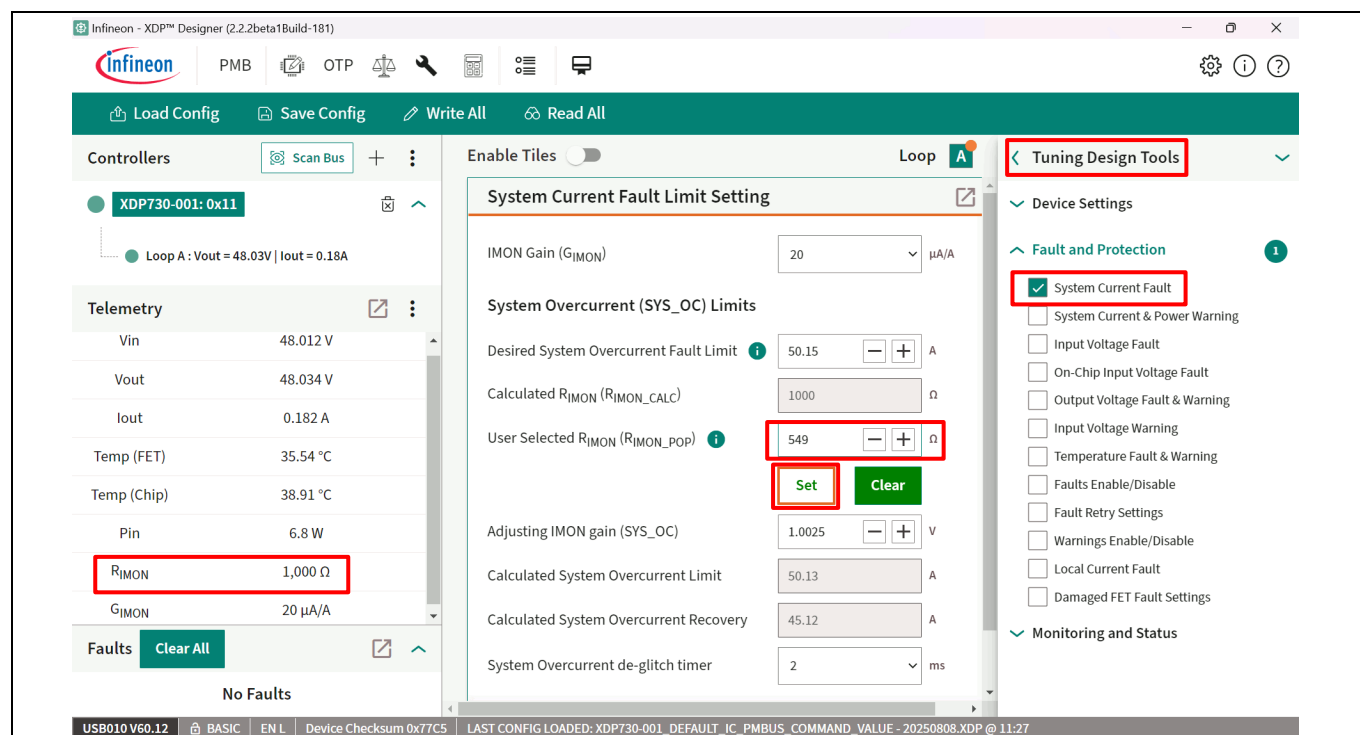

Figure 20 Program IMON resistor value
3. Modify the R_{IMON} value to **549 Ω** and then click **Set**. See Figure 20